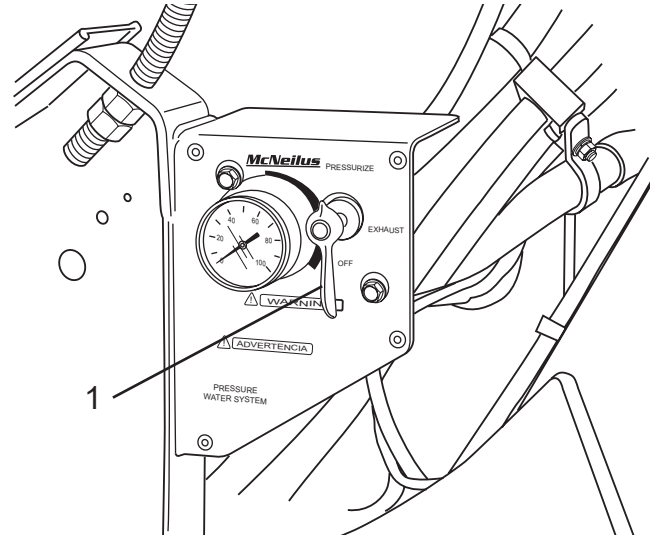

Figure 81
2. After pressure in the water tank has been completely exhausted, turn the air pressure control valve to the OFF position (Figure 81, Item 1).